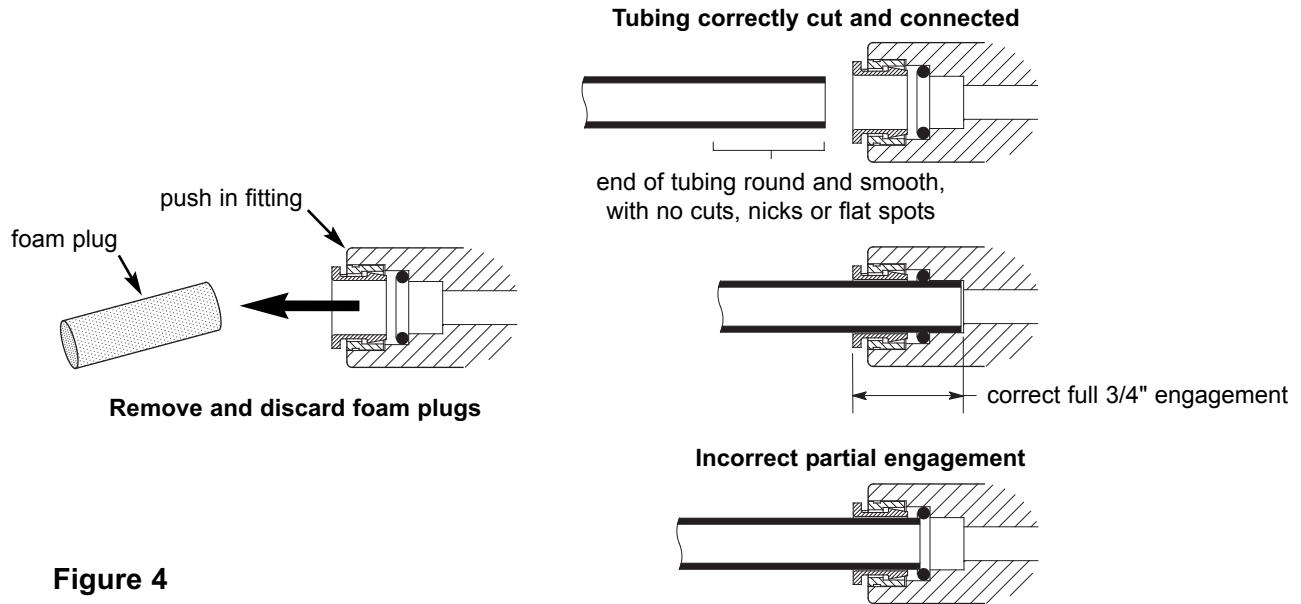

Figure 4
**NOTE: Remove protective foam plugs before connecting tubes (See Fig. 4). Discard foam plugs.**